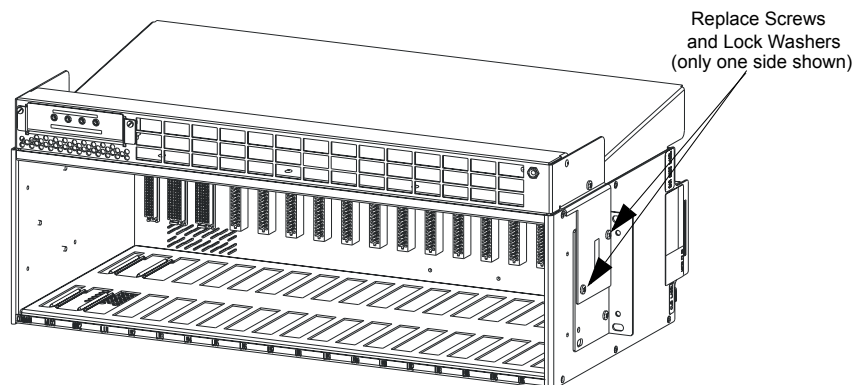

Figure 18. Replace the Screws and Lock Washers
2. Place the ASU-945 DS3 Splitter bracket on the PCS-719 shelf (Figure 18).
3. Replace the two screws and lock washers on **both** sides of the PCS-719 shelf (Figure 18 - only one side shown). Make sure you are securing the ASU-945 DS3 Splitter bracket.